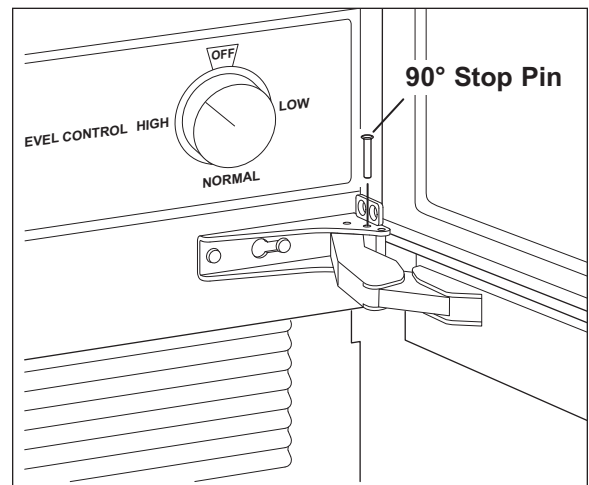

Figure 1
2. Insert stop pin into bottom door hinge (pin enters from top). (See Figure 1).